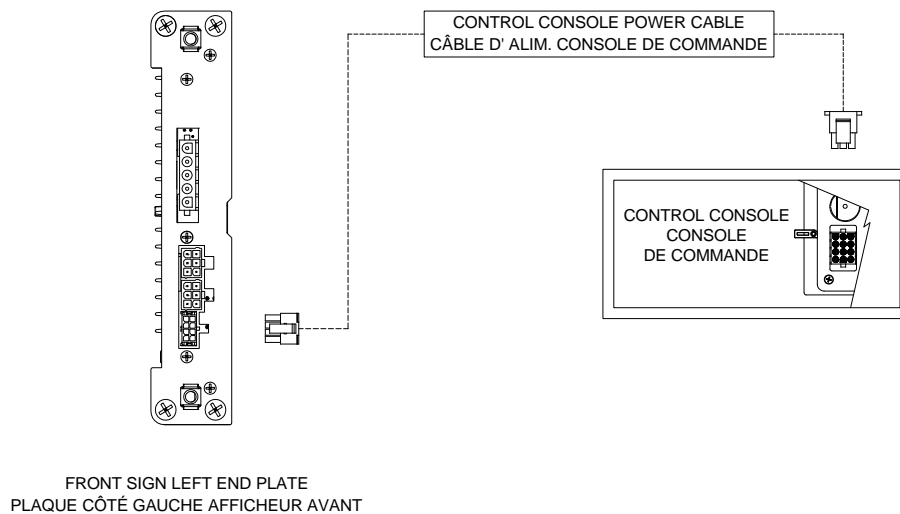

Figure 3: Control Console Cable Connection
- Connect one end of the Control Console power cable (8-pin connector) to the **CONSOLE** connector (8-pin connector) located on the side plate of the Front Destination Sign. (See Figure 3)
- Connect the other end of the Control Console power cable (12-pin connector) to the corresponding connector located on the Control Console. (See Figure 3).